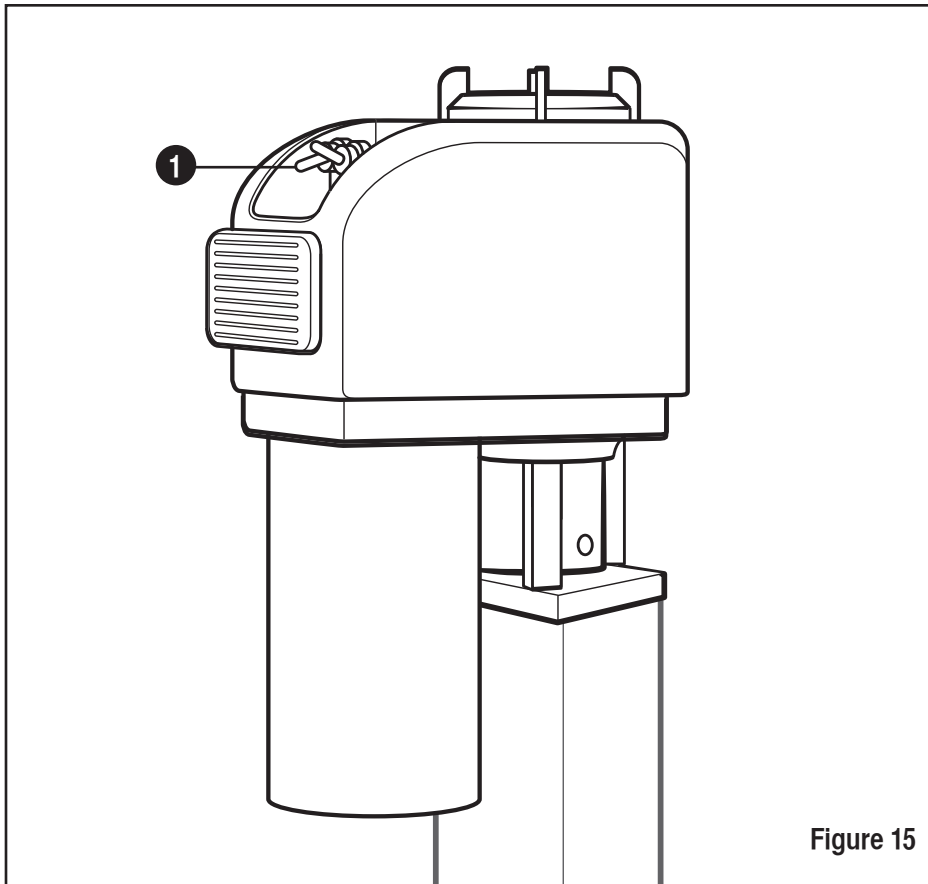

Figure 15
1. The lift may be moved up or down using the left toggle switch on the Powerhead (**Figure 15**).